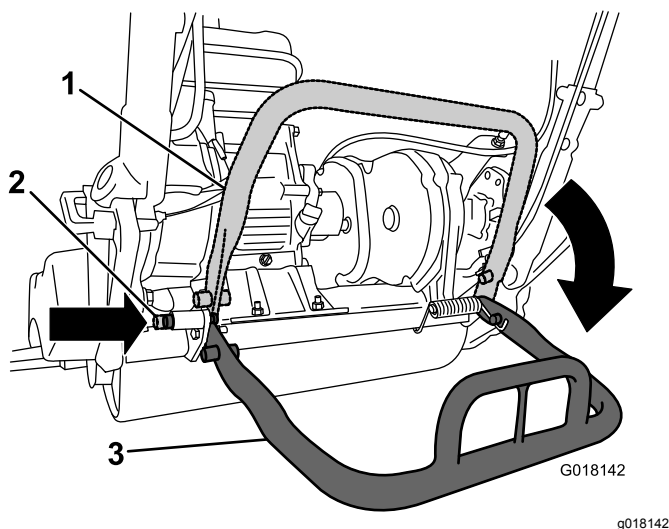

Figure 24
- To prevent the machine from tipping backward when removing the reel, lower the kickstand and push in the locking pin to lock it in the SERVICE position (Figure 24).